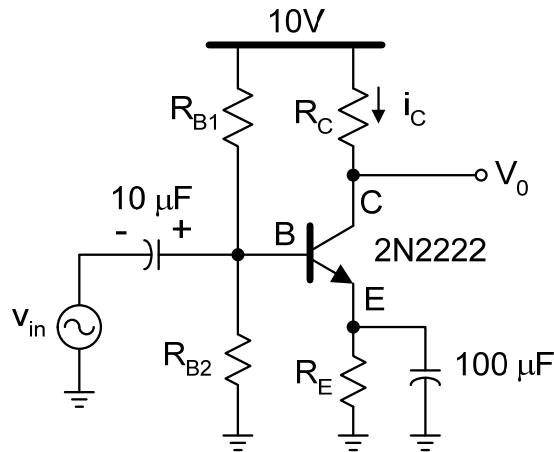
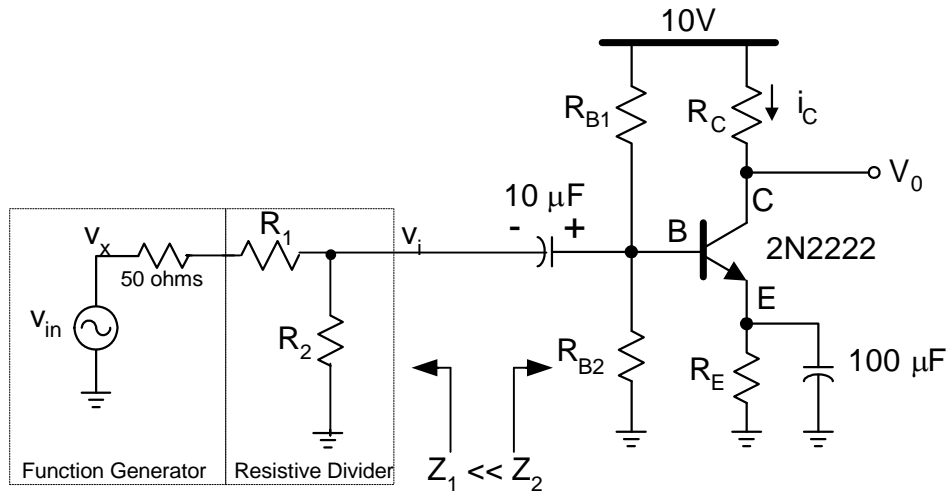

Fig. 3. Common-emitter configuration
Fig. 5. BJT CE amplifier Lab setup.
6. Find the value of the resistors for the circuit shown in Fig. 3 such that the magnitude of the small signal voltage gain is 40 dB, and the DC collector current is 1mA. Select the resistors lumped to the base such that  $R_{B1}||R_{B2} > 100$  k $\Omega$ . Check first the operating point of your design, and verify that the voltage gain is approximately given by  $-g_m R_C = -I_{CQ} R_C / V_{th}$ . Compute the values for the input impedance seen at the base and output impedance seen at the collector.
8. Construct the circuit in Fig. 3 in Pspice and compare the simulated results and hand calculations. Explain the differences if any. Also, plot the frequency response over the range and find the low frequency and high frequency poles (adjust the frequency range until you see a lower and upper  $-3$ dB frequencies).
5. To characterize the amplifier shown in Figure 3 in the lab, you will be required to apply a sinusoidal signal of 10 KHz and amplitude of 10 mV at the input of the amplifier. You may have to use a resistive voltage divider to reduce the amplitude of the signal provided by the signal generator if that cannot be as small as 10 mV. This setup is shown in Fig. 5. Use  $R_1=400$  ohms and  $R_2=50$  ohms. For  $R_{B1}$ ,  $R_{B2}$ ,  $R_C$  and  $R_E$  use the values computed in the pre-lab.
In this section we set up the BJT CE amplifier (shown in figure 5) to perform distortion measurements. The common emitter amplifier has been designed with a small signal voltage gain of 40 dB, which is 100 V/V. The amplifier is connected to supply rails between +10V and Ground (0V). Also the voltage swing at the collector terminal is limited within a certain range (based Quiescent Voltage at the Collector in your design). It can be very easily seen that with a gain of 100 V/V, a small input amplitude levels at the base of the transistor can easily saturate the output of the amplifier and considerably distort the output. Hence we attenuate the signal from the function generator using a resistor divider before connecting it to the base terminal of the transistor. Following steps outline how to measure the distortion performance of such a configuration.
1. We will use the circuit configuration shown in figure 5. **The 50 ohms shown in Figure 5 is internal to the function generator. DO NOT place an external 50 ohm resistor.** We will use  $R_1=400$  ohms and  $R_2=50$  ohms to give us a division ratio of 0.1 from  $v_x$  to  $v_i$ .
\* **Please note:** Be careful while calculating the output peak voltage obtained using the function generator and the resistor divider circuit indicated in Figure 5. When the function generator is set to have an output impedance of 50 ohms, the voltage produced *inside the function generator (node  $V_X$  or voltage  $V_{IN}$  Figure 5) is twice the value indicated on the display.* You need to calculate the voltage produced at  $V_1$  accordingly. So when the function generator **displays** the output to be 50 mV pp, the voltage at the  $V_1$  can be calculated as:  $100\text{mV} \cdot (1/10) = 10 \text{ mV pp}$  or 5 mV peak.